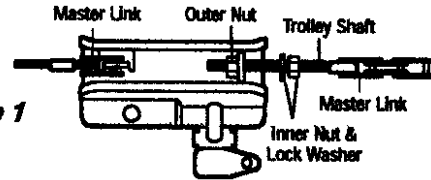

Figure 1
4. Remove the outer nut (Figure 1) from the trolley shaft and set aside.